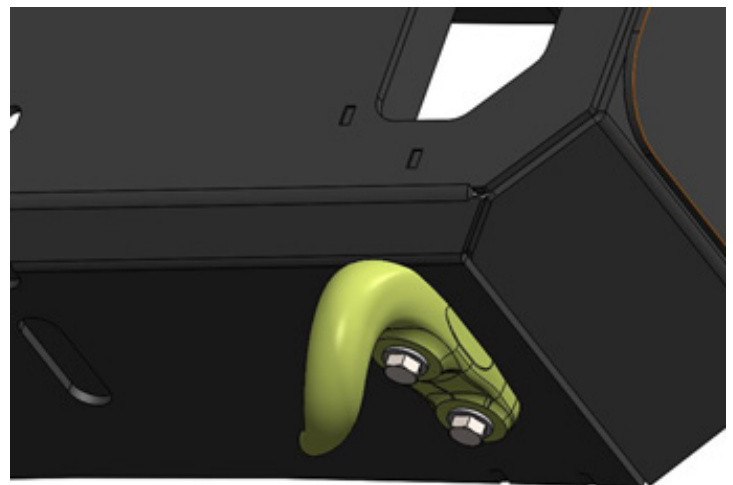

Figure 4
3. If truck is equipped with tow hooks: Removed the tow hooks from the truck using an 18mm socket. Attach the tow hooks to the bottom of the winch tray using four (4) of the provided 1/2"-13 yellow zinc bolts, flat washers and lock nuts (50264-HW). (Figure 4)